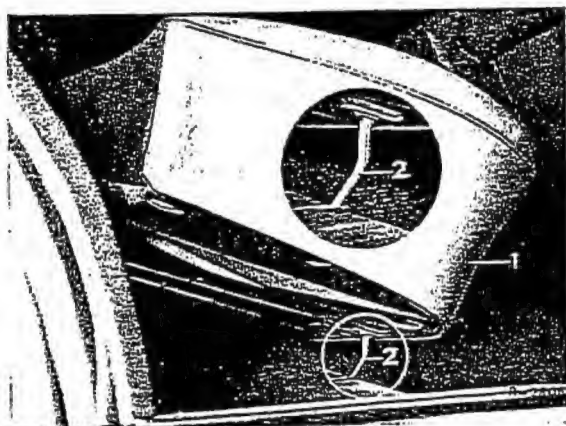

Fig. 92-1/1
8. Put down the rear seat cushion in such a way that the pressure-welded studs engage the bores in the cross member (Fig. 92-1/1).